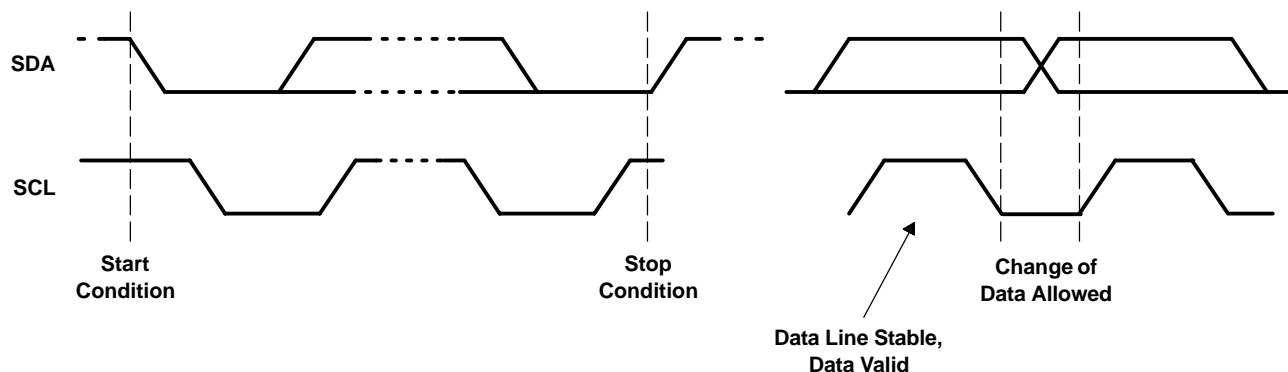

Figure 6. Serial EEPROM Start/Stop Conditions and Bit Transfers
The serial EEPROM interface signals require pullup resistors. The serial EEPROM protocol allows bidirectional transfers. Both the SCL and SDA signals are 3-stated and pulled high when the bus is not active. When the SDA line transitions to a logic low, this signals a start condition (S). A low-to-high transition of SDA while SCL is high is defined as the stop condition (P). One bit is transferred during each clock pulse. The data on the SDA line must remain stable during the high period of the clock pulse, as changes in the data line at this time will be interpreted as a control signal. Data is valid and stable during the clock high period. Figure 6 illustrates this protocol.